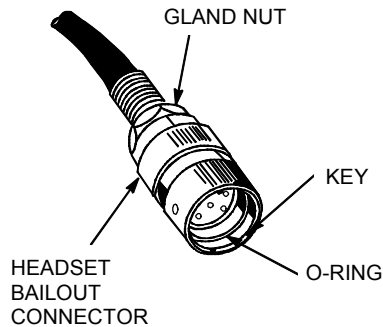

Figure 3-1. Details of Cable Connector
1. Clean the surfaces of headset bailout cable connector O-rings (see figure 3-1).